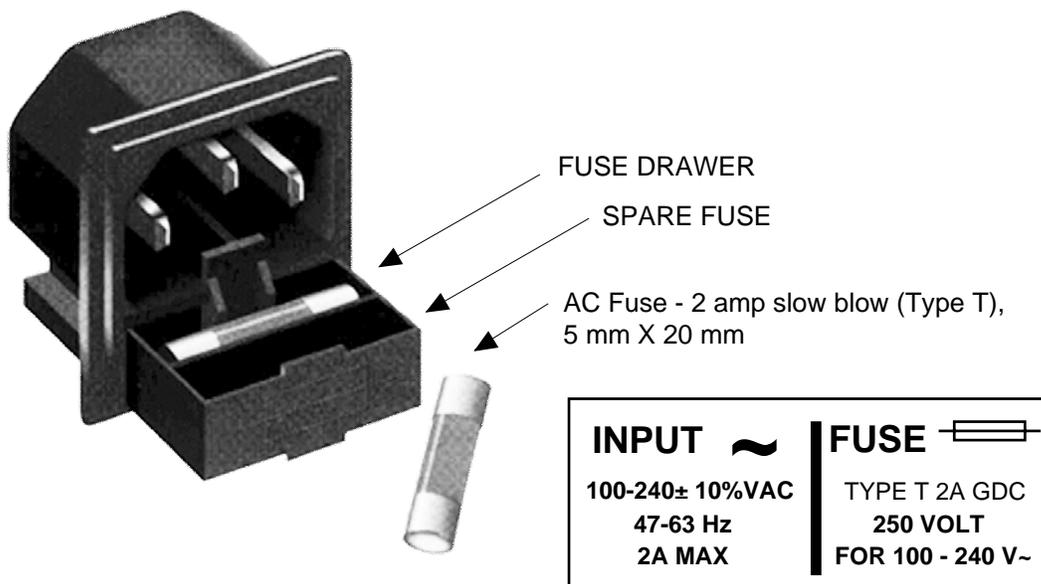

FIGURE 2.3 Fuse Location and Spare Fuse
10. **AC Fuse** - The fuse is a 5 mm X 20 mm, 2 amp slow blow (Type T) and is inserted in the far slot in the drawer below the AC input as shown in Figure 2.3. There is a spare fuse in the near slot. If a fuse continues to open, the power supply is most likely defective.